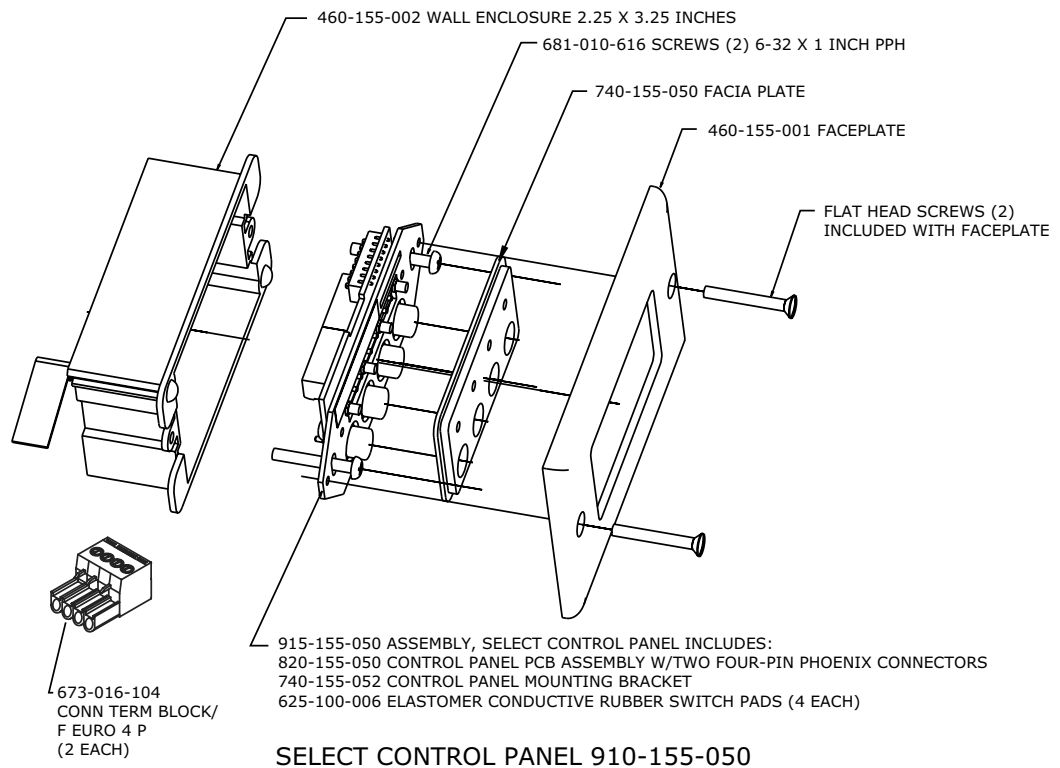

Figure C.5. Select Control Panel Assembly
1. Ensure you received a fascia plate; a Control Panel assembly with mounting bracket and two RS-485 Phoenix four-pin connectors; two connector terminator blocks; a faceplate; two flat HD screws; two pan-head screws; and an electrical wall box (shown in Figures C.5 and C.6). If any parts are missing, please contact ClearOne.
- As shown in Figures C.5 and C.6, use the supplied pan-head screws to install the Control Panel PCB assembly to the electrical wall box.
- To install the facia plate, position it over the conductive rubber switch pads on the PCB assembly, as shown in Figures C.5 and C.6.